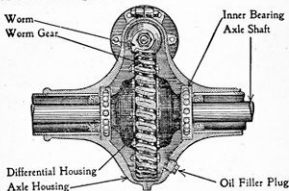

Figure 117.—Rear View of Truck Worm Drive.
**Lubrication.**—Proper oil and proper care in lubrication are essential to the life and successful operation of any worm drive axle. The Ford Motor Company recommends the use of a heavy fluid or semi-fluid oil and mentions Mobiloil "C" and Whittemore's Worm Gear Compound. The lubricant should be carried at a height even with the filling plug which may be seen in Figure 117.